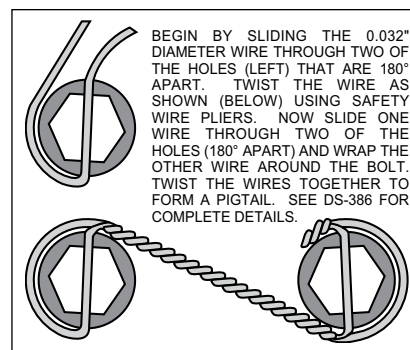

Figure 4. Safety Wire Diagram
• Slide the bracket kit assembly (1) onto the housing flange and then insert the axle assembly through the center hole of the bracket kit assembly (1). Secure using the stock Original Equipment Manufacturer (OEM) bolts and nuts. Stock OEM hex nuts that retain the bracket kit assembly (1) should be on the wheel side of the bracket. Apply red *Loctite*® 271 to the stock OEM bolt threads and torque to OEM specifications. Make sure the bracket kit assembly (1) brake pads are FACING OUTWARD TOWARDS THE WHEEL.
• With the larger I.D. side of the rotor (3) facing away from the hat (2), bolt rotor (3) to hat (2) through the backside of the rotor using washers (4) and bolts (5). Apply red *Loctite*® 271 to the bolt threads and torque bolts to 155 **in-lb.** using a criss-cross pattern. For an added measure of security, the bolts may be safety wired using standard 0.032 inch diameter stainless steel safety wire as shown in Figure 4. Please refer to Wilwood's data sheet DS-386 (available at [www.wilwood.com/Pdf/DataSheets/ds386.pdf](http://www.wilwood.com/Pdf/DataSheets/ds386.pdf)) for complete safety wire installation instructions.
• Slide the rotor registration adapter (17) onto the axle register on the axle flange with the smaller O.D. facing toward the rotor/hat (2). Align the correct hole pattern in the hat with the stud pattern on the axle flange. **NOTE:** Some OEM and aftermarket axles come with stud sizes larger than 0.50" diameter. Verify stud size and have a qualified machine shop drill the hats to the correct size, if necessary. Slide the hat/rotor assembly (2 and 3) over the wheel studs covering the bracket kit assembly (1) and against the axle flange face. Check to be sure the hat seats squarely against the hub. Install a couple of lug nuts (finger tighten) to keep the rotor/hat assembly in place while continuing with the installation.